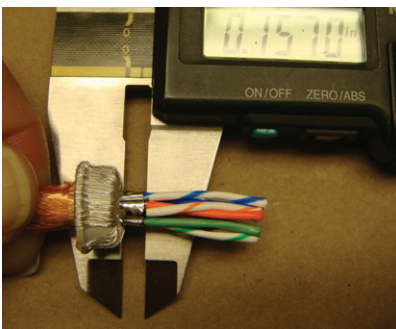

Figure 59: Cutting the foil tape
9. Cut and remove the foil tape at 0.157 inches (Figure 59).